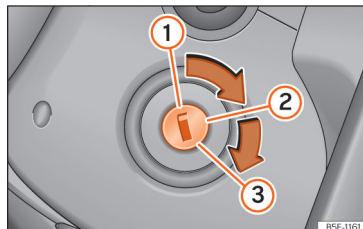

Fig. 84 Ignition lock
- Turn the key to position **»» Fig. 84 ②**.
- Keep turning the key to position **»» Fig. 84 ③** without pressing the accelerator.
- Once the engine starts, release the key. When it is released, the key returns to position **②**.
- *Vehicles with ignition locks:* Turn the key to position >>> Fig. 84 .
- *Vehicles with start buttons:* Briefly press the start button >>> Fig. 84.